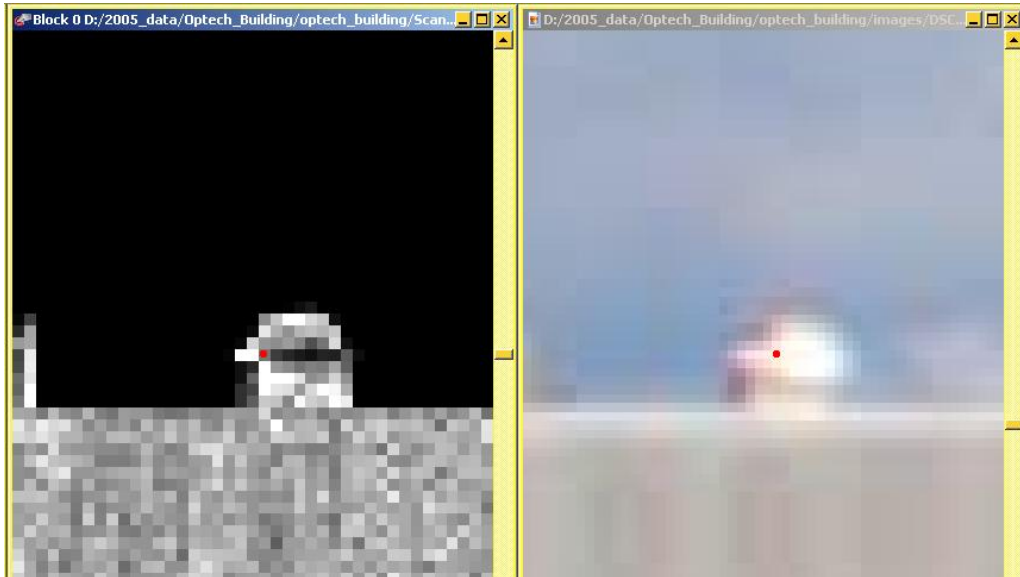

Figure 12: Zoomed images showing common features
1. Zoom to isolate a common feature (see Figure 12). For the most accurate match, zoom until you see individual pixels in both the scan and digital camera image.